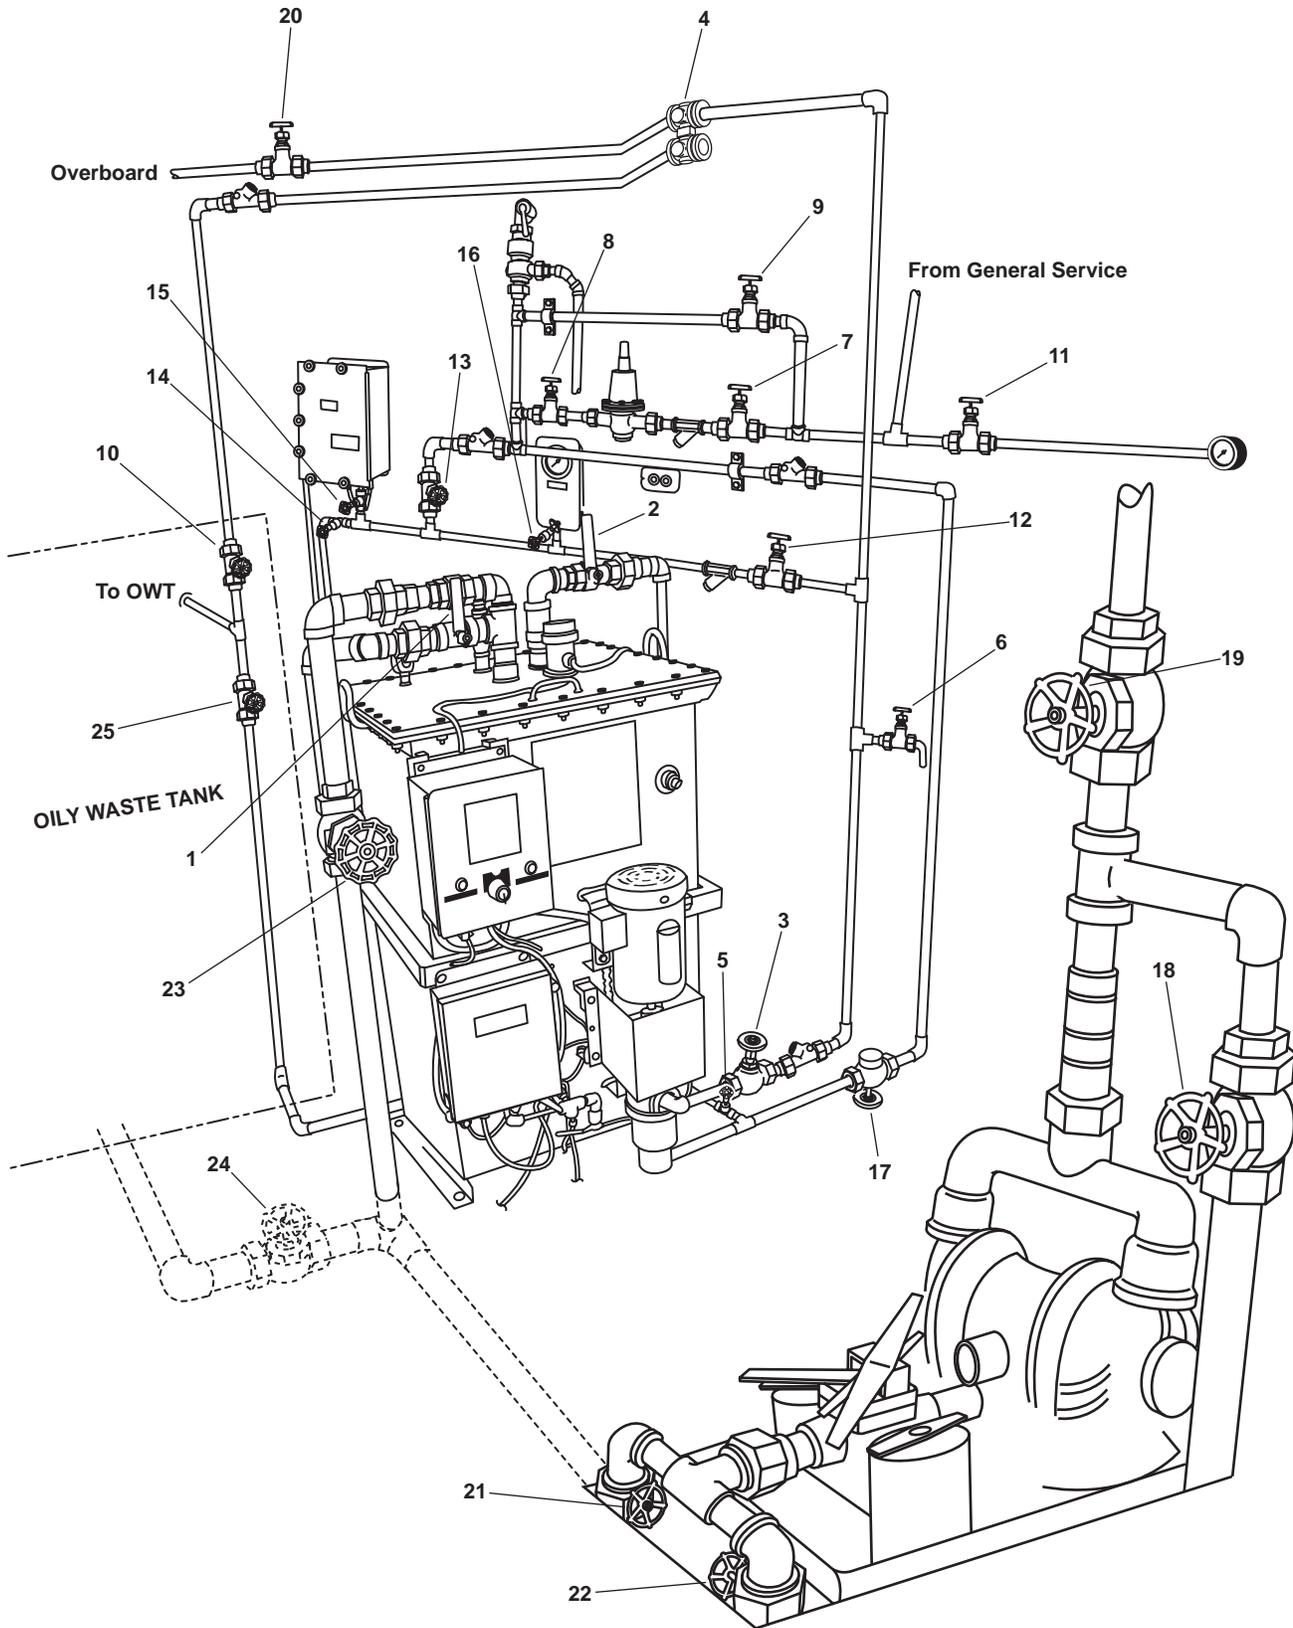

Figure 6. OWS, OB, and OCM Piping
2. Align the OWS, the OB, and OCM valves as indicated in table 2 and figure 6.